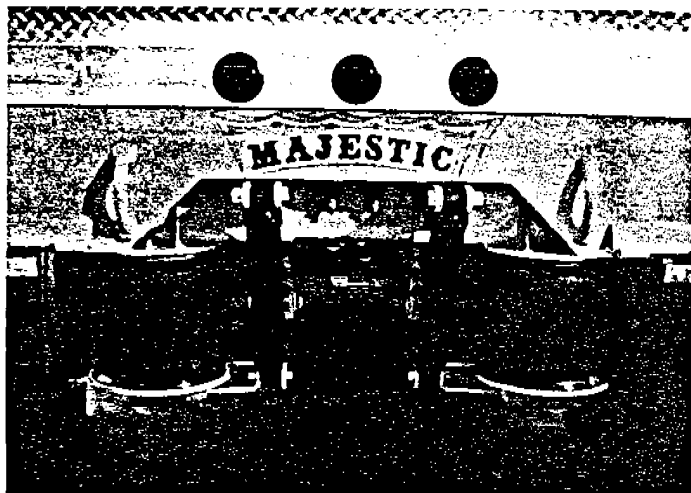

FIGURE 1
2. **BEFORE REMOVING TRACTOR,** disconnect air from tractor. Then open air valve on rear of trailer and exhaust all air from air bags. (See Figure 1).